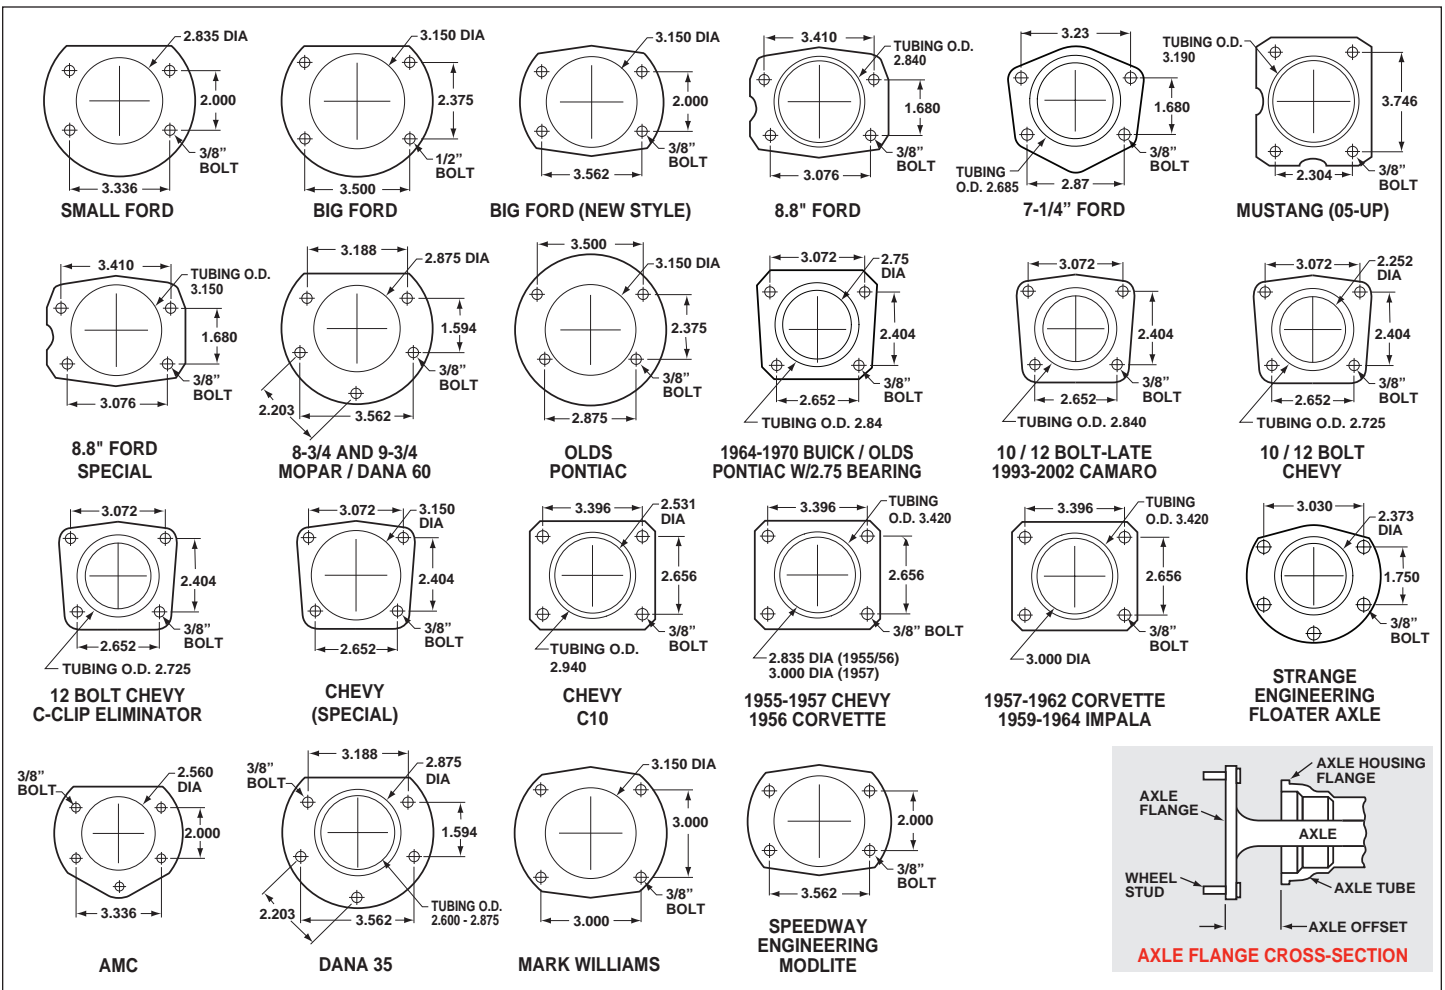

Figure 6. Rear Housing Flange Chart and Axle Flange / Cross-Section
- Make sure this is the correct kit to fit the axle housing flange, not necessarily the rear end make. Many times after market manufacturers put a different make of axle housing flange on the stock rear end housing (see Figure 6). Example; Big Ford rear ends with Olds-Pontiac flanges, therefore, an Olds-Pontiac rear disc brake kit would be the correct kit to order.
- Dimension from wheel side of axle flange to wheel side of axle housing flange (see Figure 6, lower right hand corner). This dimension is critical to ensure proper alignment of the rotor to the caliper, and should match offset given in the kit description.